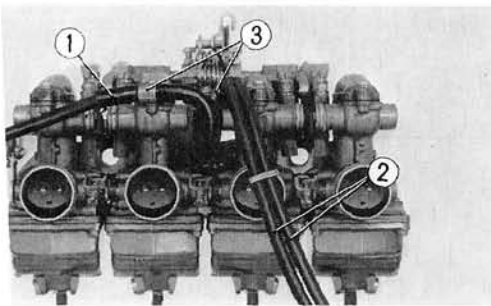

fig. 3-92 ① Fuel tube ③ Clips
4. Install and route each carburetor tube as shown in Fig. 3-92.
5. Move the throttle lever until it contacts the adjusting screw, and check the throttle valve-to-throttle bore clearance (L). If out of specification (0~1.0 mm/0~0.04 in.), adjust the clearance by means of the adjusting screw.